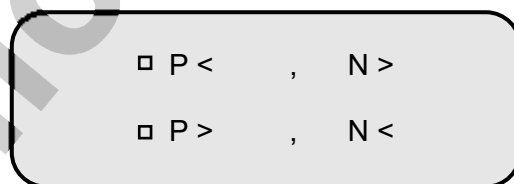

Fig. 12: Invalidity Judgment
2. The first type is set as default. If it is equal to the demand, press **Enter** key to go to the sub menu (Fig. 12). **C.O.** is the abbreviation for Cut-off value;
3. If the reagent prescribes the second method, press \blacktriangle to make the symbol in front of S become \bullet and press **Enter** key. Then select the second judgment method by the key of \blacktriangledown and press **Enter** key to confirm. Press **Enter** key again to enter the interface of invalidity judgment (Fig. 12).